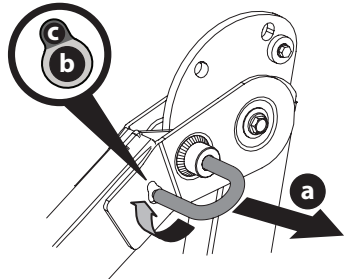

Figure 4
1. Pull slightly up on the ROPS to relieve any tension on the locking pin (a) and rotate the locking pin (a) from the LOCKED (b) position into the ADJUSTMENT (c) position. Repeat the procedure for the locking pin on the opposite side (Figure 4).